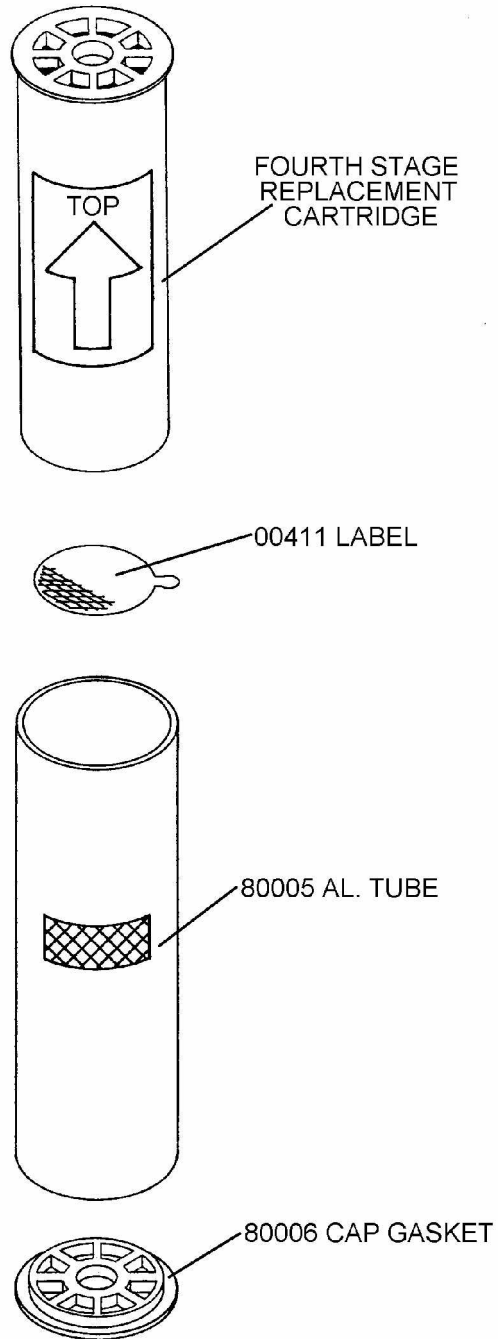

FIGURE NO. 3
- L. Refill the fourth stage assembly by sliding the new fourth stage cartridge into the tube from the top (see Figure No. 3).
- O. Replace corner bolts and washers and finger tighten all five (5) S011-040 Manifold Bolts.